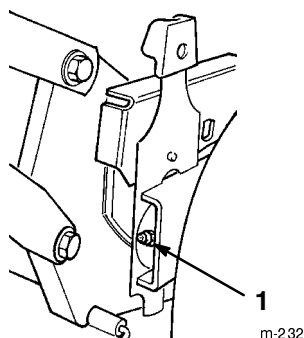

Figure 21
2. Wipe the grease fittings with a clean rag (Fig. 21).
3. Install a grease gun onto the fitting and gently apply two or three pumps of #2 multi-purpose lithium base grease (Fig. 21).